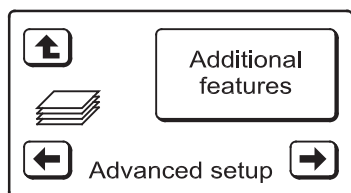

FIG. 64
3. Press the ADVANCED SETUP button to display the screen shown in Figure 64.